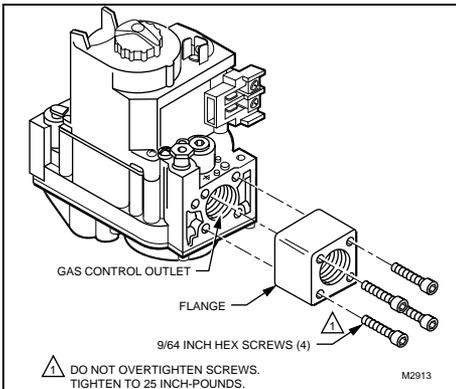

FIG. 1—FASTEN FLANGE TO VALVE WITH 25 INCH-POUNDS TORQUE.
4. With O-ring facing valve, line up the screw holes on the control with the holes in the flange. Insert and tighten the screws provided with the flange. See Fig. 1. Tighten the screws to 25 in. pounds of torque to provide a gas-tight seal.